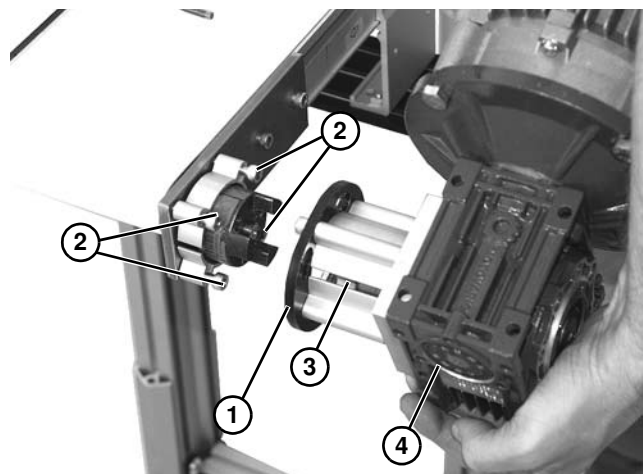

Figure 13
3. Rotate and remove gearmotor and gearmotor mounting ring (Figure 13, item 1) from four screws (Figure 13, item 2) (through slots in gearmotor bracket) and remove entire gearmotor assembly from conveyor.
4. Remove spider bushing (Figure 13, item 3) from mating female portion of 3 jaw coupling on gearmotor assembly (Figure 13, item 4).